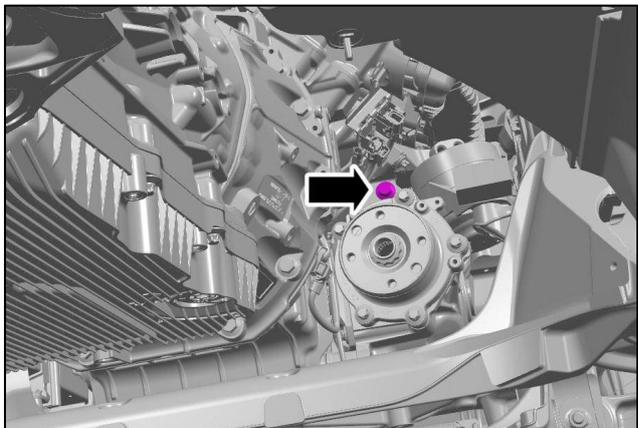

Figure 2
4. Torque the bolt that attaches the FDU assembly to 50 Nm plus 95 degrees (refer to Figure 2).